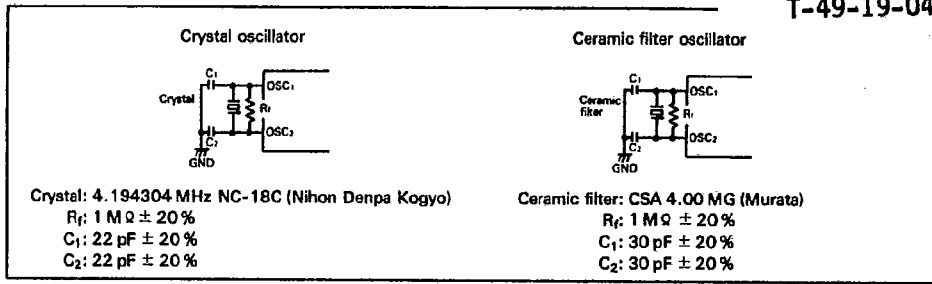

Figure 30. Oscillator Circuit
- Notes: 1. Oscillator stabilization time is the time until the oscillator stabilizes after  $V_{CC}$  reaches its minimum allowable voltage after power-on, or after RESET goes high. At power-on or STOP mode release, RESET must be kept high for at least  $t_{RC}$ . Since  $t_{RC}$  depends on the crystal or ceramic filter's circuit constant and stray capacitance, please get the manufacturer's advice when designing the RESET circuit. (See figure 30)